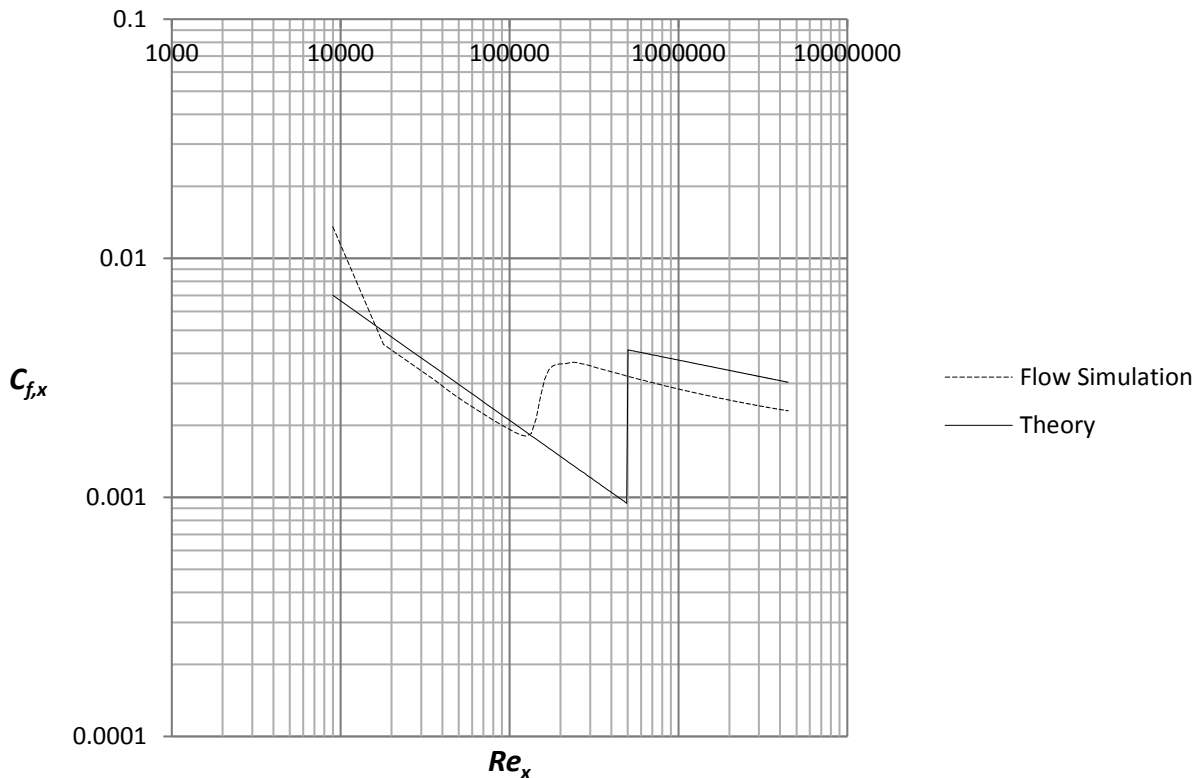

Figure 2.32 A comparison between Flow Simulation (dashed line) and theoretical laminar and empirical turbulent friction coefficients
34. Place the file “**graph 2.32**” on the desktop. Repeat step 24 and choose the sketch $x = 0 - 0.9 \text{ m}$, uncheck the box for **Velocity (X)** and check the box for **Shear Stress**. Rename the xy-plot to **Local Friction Coefficient for Laminar and Turbulent Boundary Layer**. An Excel file will open with figure 2.32. Figure 2.32 is showing the Flow Simulation is able to capture the local friction coefficient in the laminar region in the Reynolds number range 10,000 – 150,000. At $Re = 150,000$ there is an abrupt increase in the friction coefficient caused by laminar to turbulent transition. In the turbulent region the friction coefficient is decreasing again but the local friction coefficient from Flow Simulation is significantly lower than empirical data.